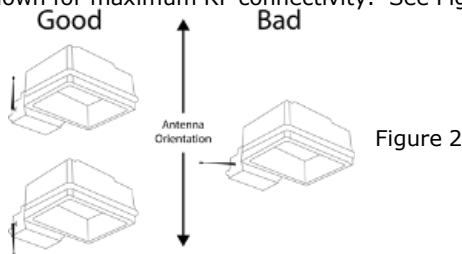

Figure 2
7. Orient antenna direction pointing straight up or straight down for maximum RF connectivity. See Figure 2.